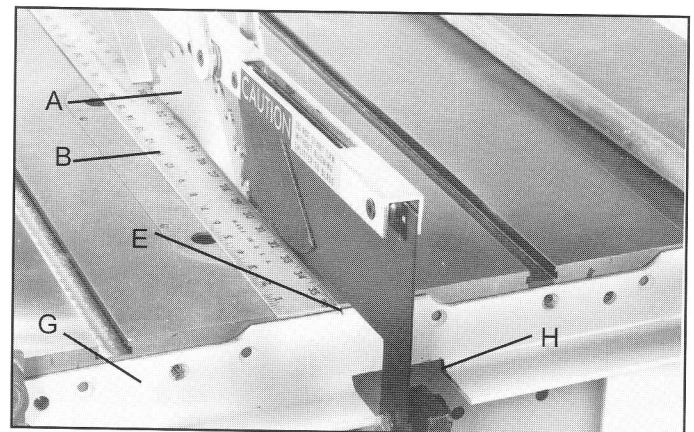

Fig. 17
5. Clamp rear rail (G) Fig. 17, to back of saw table using bar clamps making certain notch (E) in rail is aligned with saw blade (A) as shown, using straight edge (B). Make sure the two cutouts in the rail are 1/16" below the bottom of the miter slots in the saw table.
7. After fastening the rear rail to the saw table, tilt the saw blade to make certain there is no interference between the saw guard and the rear rail. If there is, it will be necessary to enlarge the cut-out (H) Fig. 17, in the rear rail.